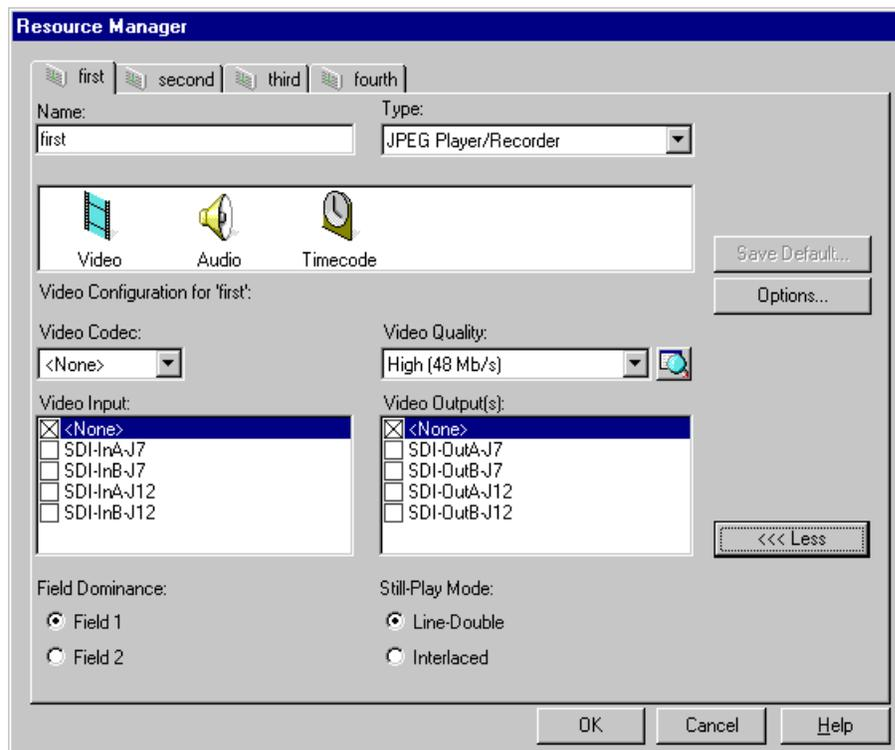

Figure 121. Resource Manager dialog box
- Choose **Project | Configure** and the Resource Manager dialog box appears (see Figure 121).